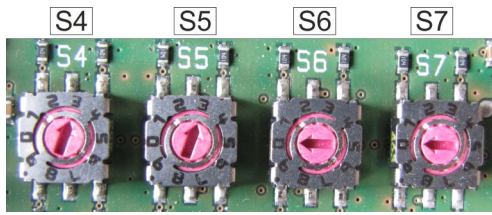

Fig. 45: Configuration
3. ➤ Configure the system with addresses (Fig. 45).